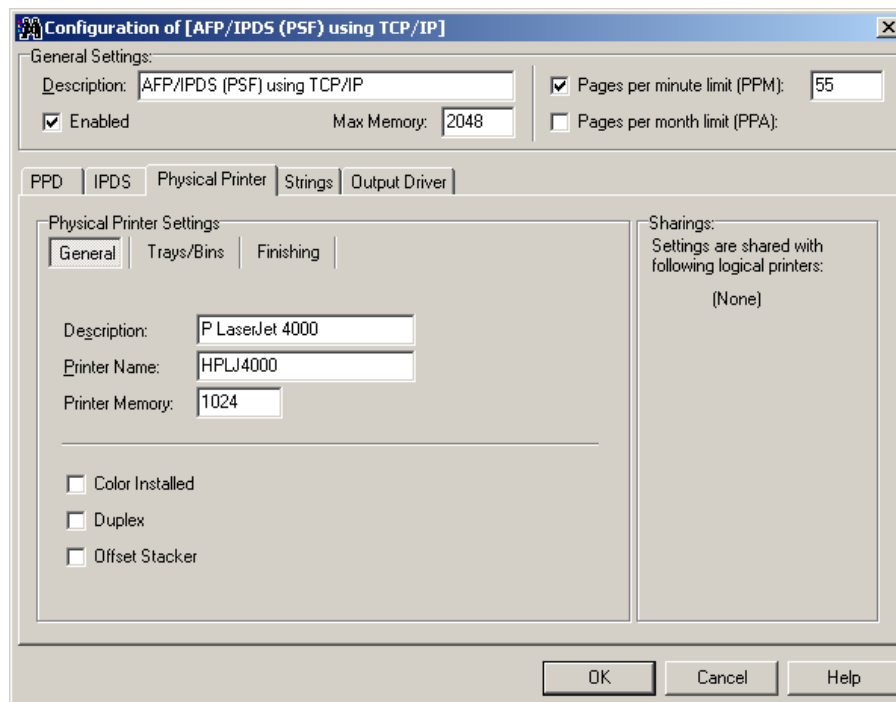
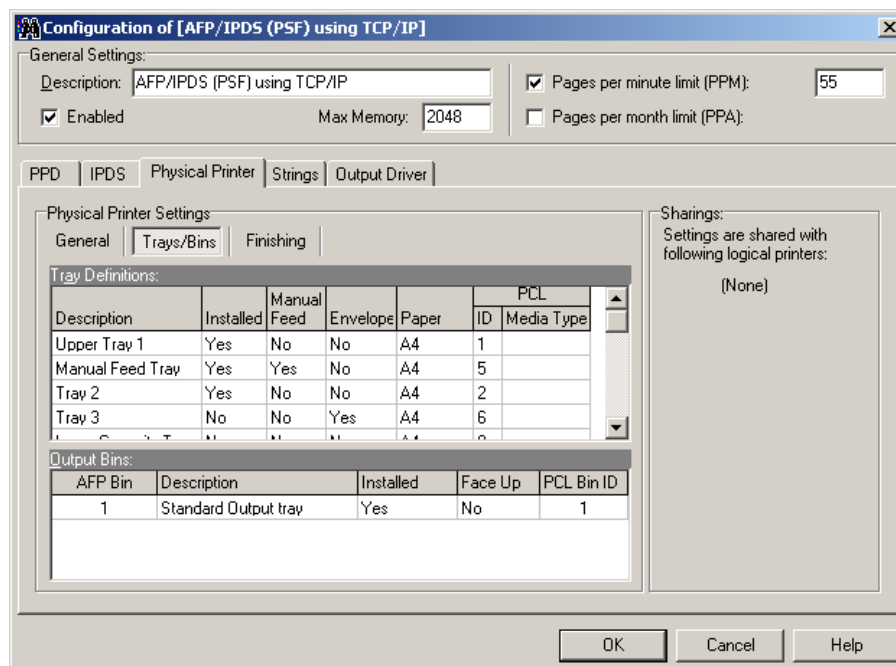

Figure 21, General setting
Figure 22, Trays / Bins
7. Click the **Physical Printer** tab. See Figure 21.
8. In the **Printer Settings** box, clear the **Auto Configure Settings** check box to manually configure the printer settings. (Figure 21 and Figure 22)